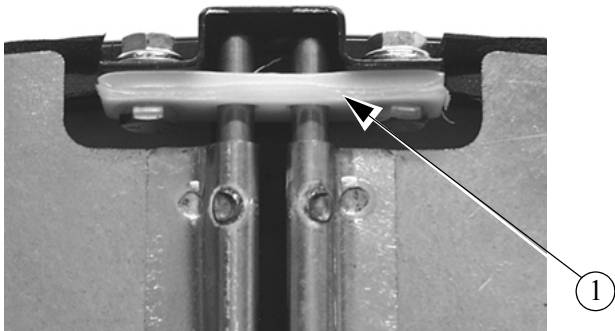
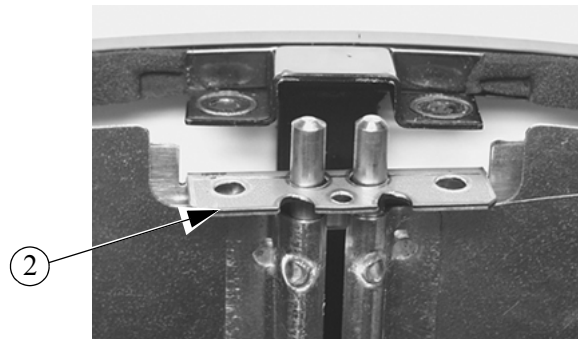
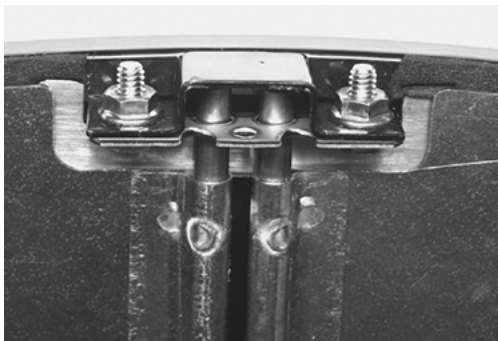

Figure 3. Removing the Plastic Pivot Plate
Figure 4. Replace with Stainless Pivot Bracket
Figure 5. Re-fasten 7/16 Hardware
5. Remove the 1/4" Flange Nuts, Bolts, and Washers from the top of the Door Assembly and discard the Plastic Pivot Plate (**Item 1, Figure 3**). Replace the Plastic Pivot Plate with a new Stainless Pivot Bracket (**Item 2, Figure 4**) included in your kit, and re-fasten with the 1/4" Bolts and Flange Nuts, and Washers you removed (See **Figure 5**). Repeat the same procedure for the bottom of the Door. *An alternative* to using the Stainless Steel Pivot Plate Bracket is to drill a 3/16" hole in the Plastic Pivot Plate so that the Door Stop Wire can be installed (**Figure 6**).